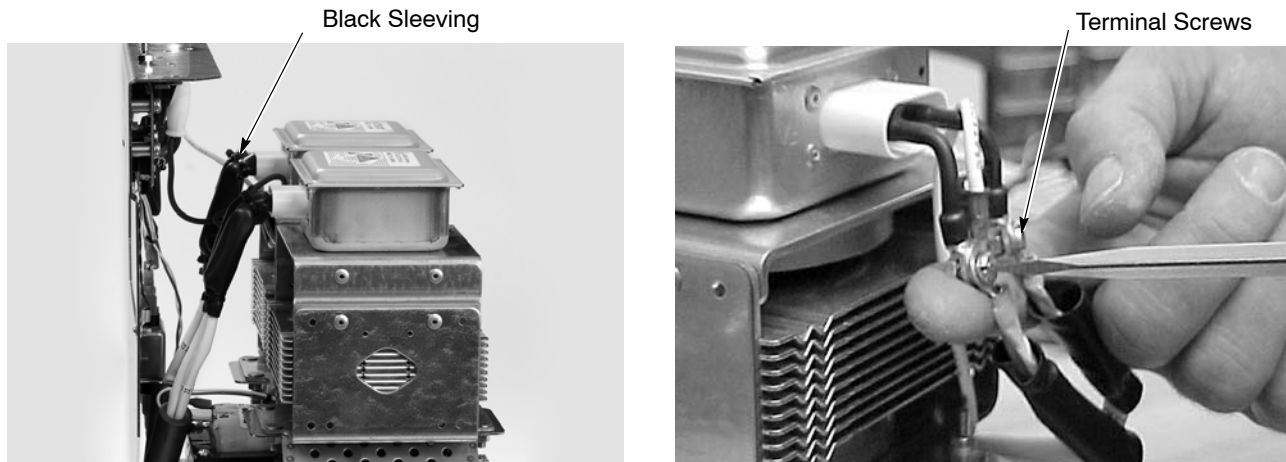

Figure 5-17 Magnetron Removal
2. See Figure 5-17. Cut the four ties securing the black sleeving over the high-voltage ring terminals.